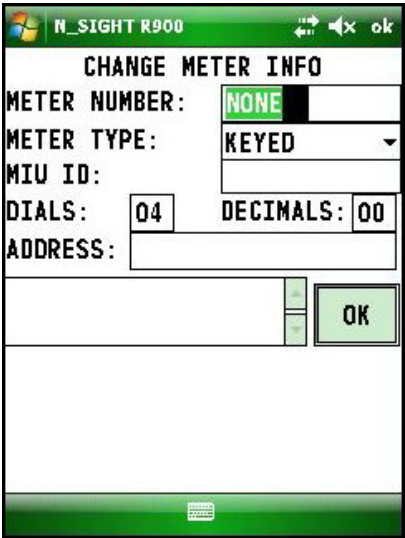

Figure 6.39 N\_SIGHT R900 Change Meter Info Screen
- The **Change Meter Info** screen appears as illustrated in Figure 6.39.